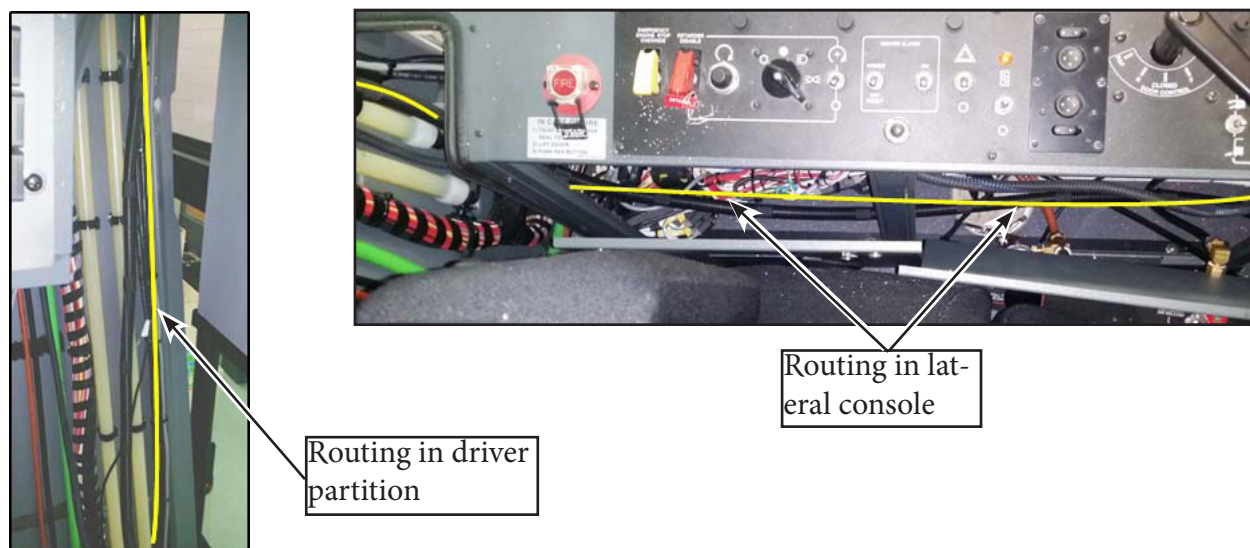

Figure 19 - Front-to-Back Cable Routing
- 2.6. Continue the front to back cable wire kit routing down inside the driver partition along the existing wiring and through the interior of the lateral console towards the throttle pedal (see Figure 19).